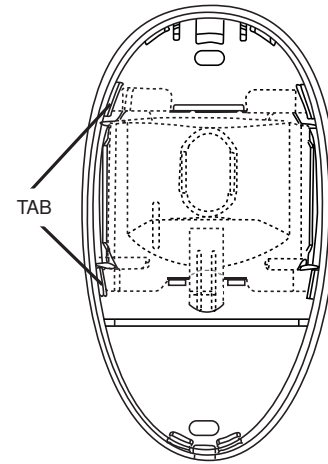

Figure 4. Changing Lenses
2. Release the lens support frame located in front cover as follows: Insert the blade of a small screwdriver between the locking tab and the detector case in each of the two corners of the frame, and lever each tab upward to release. See Figure 4. When both corners are released, remove the lens support frame by lifting and sliding the two remaining corners away from the stops in the front case.